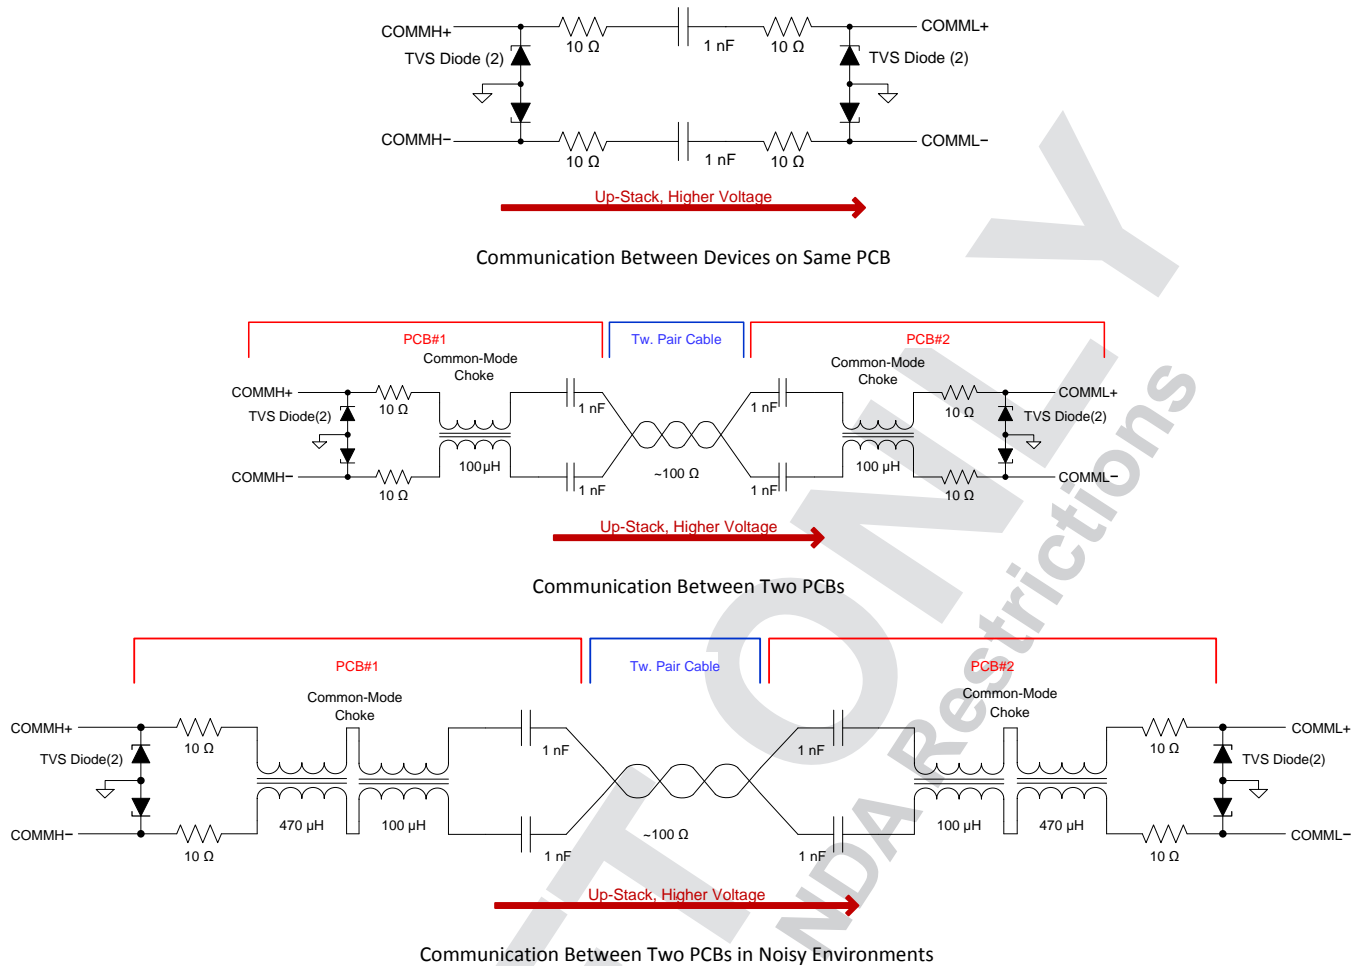

Figure 17. Communication Between Devices in Different Environments
Many applications requires multiple, daisy-chained bq76PL455A-Q1 devices that are separated by cables or located on the same PCB. The cables can introduce additional challenges and additional components are needed for noisy environments. See Figure 17 for different ways of designing differential communication VBUS daisy chains.
2. TVS diodes are required for communicating between PCB. Use a TVS diode with the lowest capacitance as shown in Figure 17.